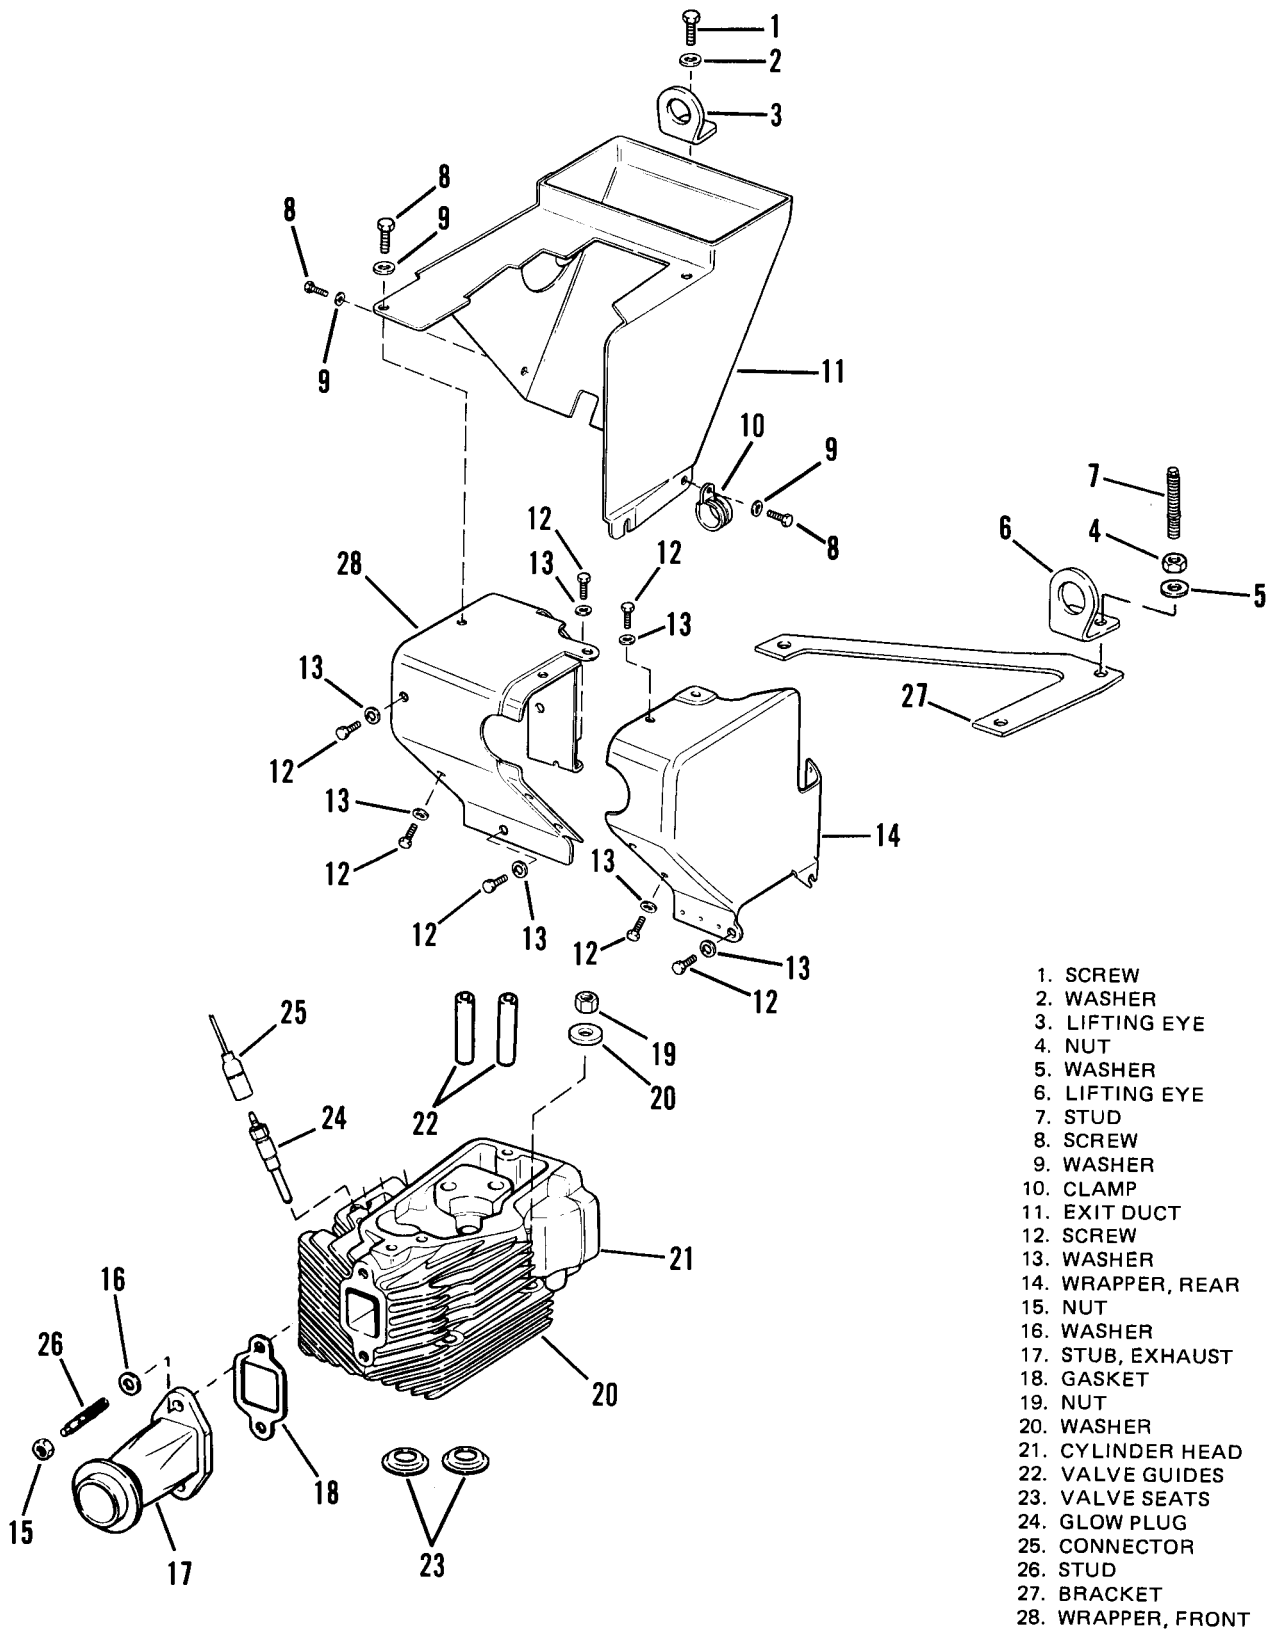

Figure 7-16. Clinder Head.
- (1) Remove intake manifold, refer to TM 05926B/06509B-12/TM 5-6115-615-12/NAVFAC P-8-646-12/TO 35C2-3-386-31 manual, paragraph 4-49.
- (2) Remove muffler, refer to TM 05926B/06509B-12/TM 5-6115-615-12/NAVFAC P-8-646-12/TO 35C2-3-386-31 manual, paragraph 4-54.
- (3) Remove lifting eyes and wrappers.
- (a) Remove screw (1, Figure 7-16), washer (2) and lifting eye (3).
- (b) Remove nut (4), washer (5), lifting eye (6), stud (7) and upper muffler bracket (27).
- (c) Remove screws (8) washers (9), clamp (10) and exit duct (11).
- (d) Remove screws (12), washers (13) and rear wrapper (14).
- (e) Remove nuts (15), washers (16), exhaust stub (17) and gasket (18), and front wrapper (28).
- (3) Remove rocker arms and push rods, refer to paragraph 7-8.
- (4) Remove fuel injector, refer to paragraph 6-4.
- (5) Remove glow plug (24), refer to TM 05926B/06509B-12/TM 5-6115-615-12/NAVFAC P-8-646-12/TO 35C2-3-386-31 manual, paragraph 4-50.
- (6) Remove four nuts (19, Figure 7-16) and washers (20).
- (7) Remove cylinder head (21).